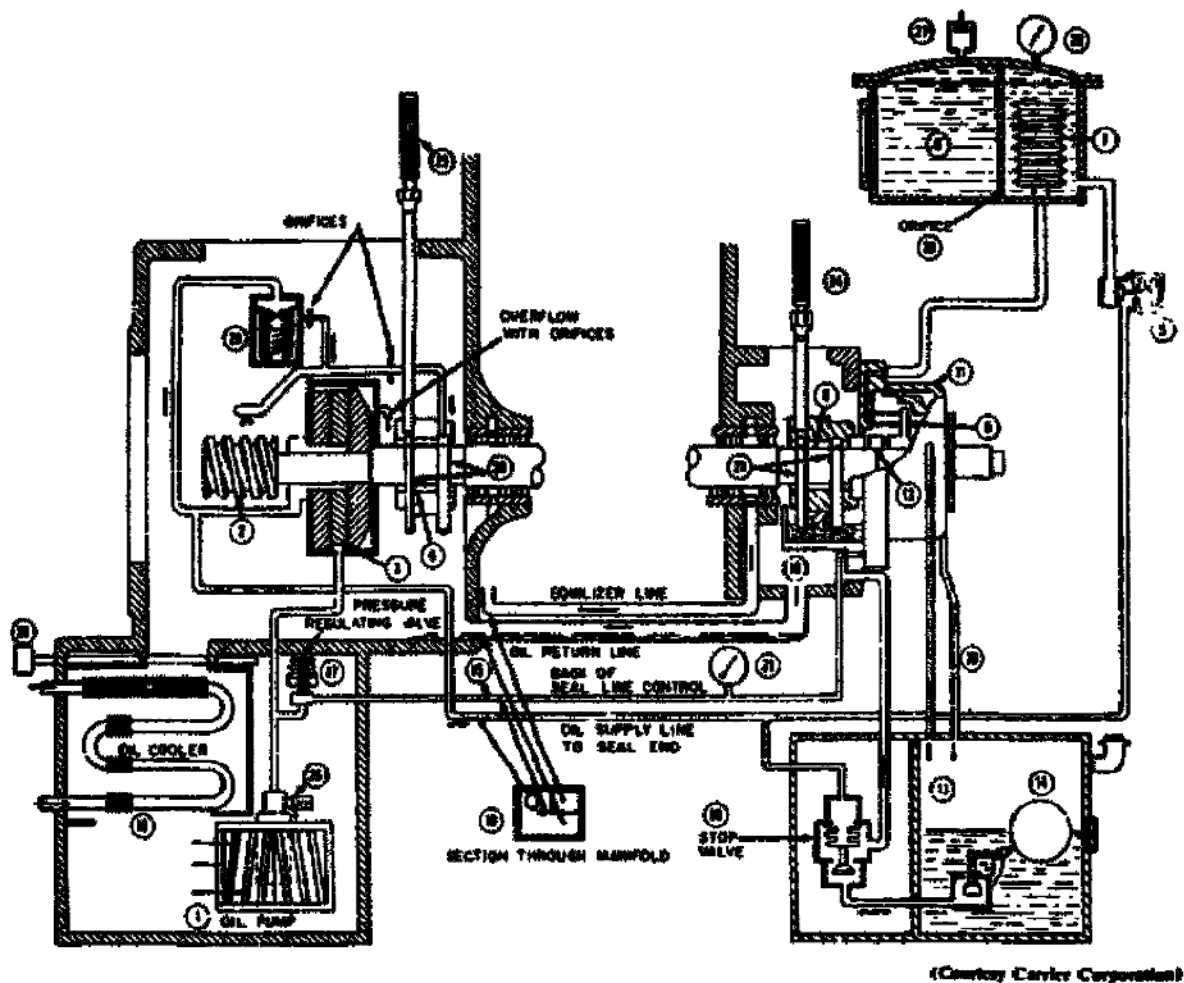
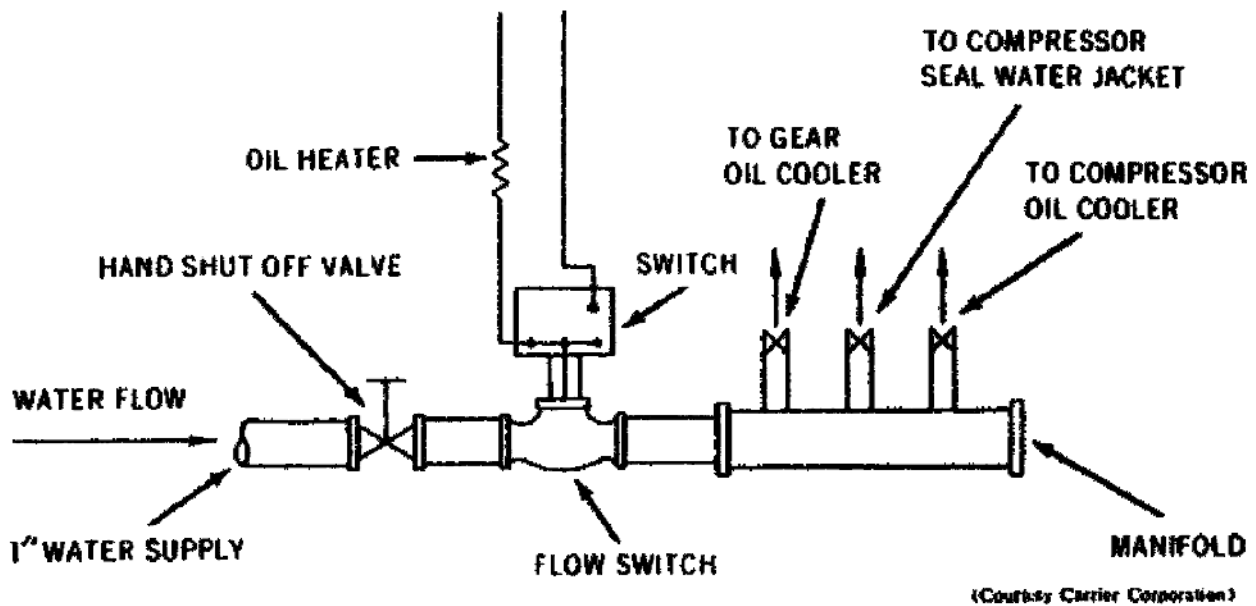

Figure 45. Compressor oil system schematic.
Figure 46. Compressor oil heater.
7. In general, the lubricating system (shown schematically in fig. 45) consists of the gear type oil
8. The oil pressure or feed circuits are as follows, according to figure 45:
- When the compressor starts, the pump (1) starts to circulate oil, which is supplied first entirely to the thrust bearing (3).
9. In the first path, the oil flows through the strainer (29) and the proper orifices to the pump gear (2) and to the rear shaft journal bearing (4). Since the thrust, rear journal bearing, and worm drive for the oil pump are all located above the oil pump chamber, the return oil merely drops back into the pump chamber from these parts.
10. In the second path, oil flows through the check valve (5) and filter (7) to actuate the shaft seal (8) and supply the front shaft journal bearing (9). Since part of the oil passes out through the front of the seal to atmospheric pressure, various valves are required in the supply lines as well as in the lines returning oil to the pump chamber. The check valve (5) does not open during compressor startup until the pump pressure reaches 8 p.s.i.g. After the valve (5) opens, the flow of oil is as described previously. If the seal oil reservoir (6) is not full, a small part of the oil passes through the orifice (28) to fill the reservoir. Oil under pressure to the seal
14. The air vent and vacuum breaker (27) admits atmospheric pressure during shutdown to the seal oil reservoir to maintain a head of oil on the seal. It operates as a gravity check valve.
The oil heater (31) heats the oil during shutdown to prevent excessive absorption of refrigerant by the oil. A flow switch located in the water supply to the oil cooler manifold automatically turns the heater on when the water supply is shut off by hand, and cuts the heater off when the water is turned on. A schematic diagram of the oil heater is shown in figure 46. The oil cooler (19) cools the oil as it is returned to the pump chamber during operation. Bearing thermometers 24 and 25 indicate the temperature of the shaft bearings. Oil rings 20 and 21—also shown in figure 45—bring additional oil from the bearing wells to the shaft. Relief valve 26 in the oil pump discharge line relieves any unusually high pressure that may occur accidentally, and thus protects the system against any damage.